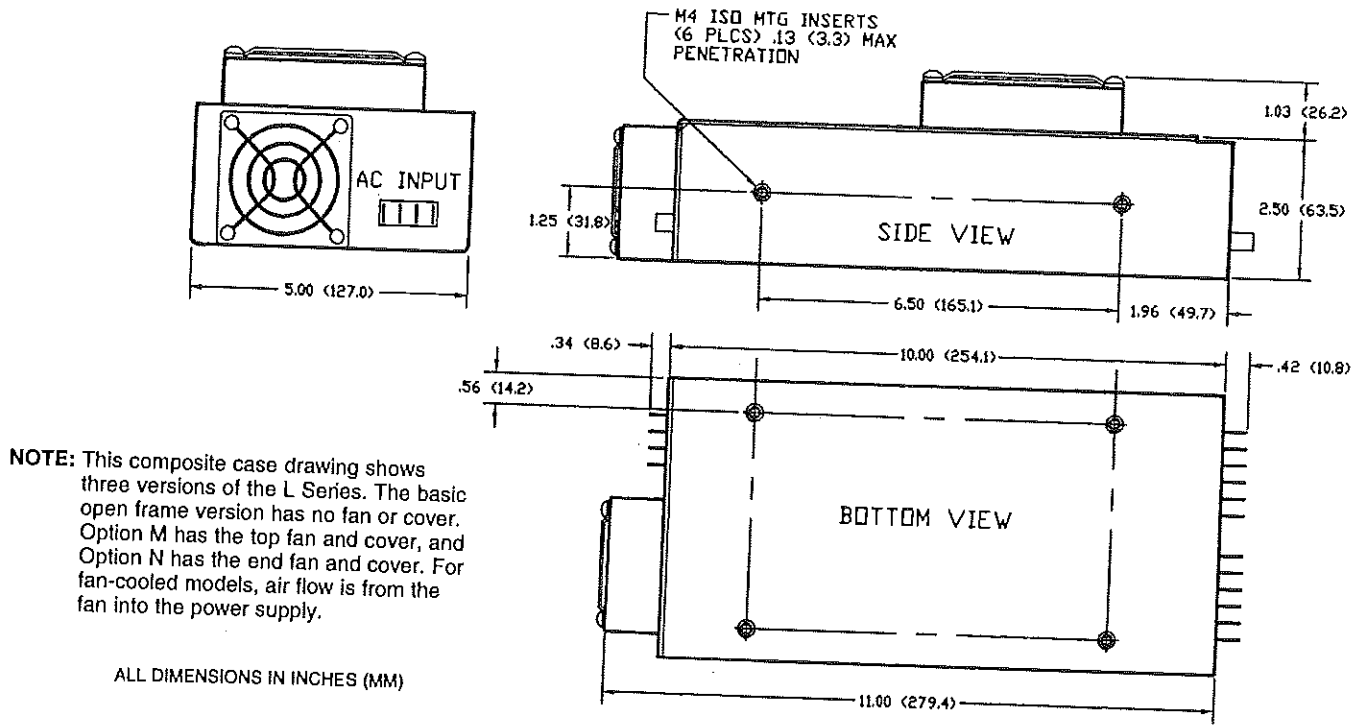

Figure 5. Composite L Series Case Drawing.
12.1 Mounting. See Fig. 5. The L Series has four threaded mounting inserts on the bottom and two on the side of the chassis. The inserts accept M4 screws with maximum penetration of 0.13 inch (3.3mm). Maximum torque on these screws is 9 in.-lbs. This mounting applies to the three versions with the aluminum frame: the open-frame version, top-fan version and end-fan version. For the open-board version there are six 0.156 inch diameter mounting holes for mounting the unit on standoffs. See Fig. 8 for the dimensions.